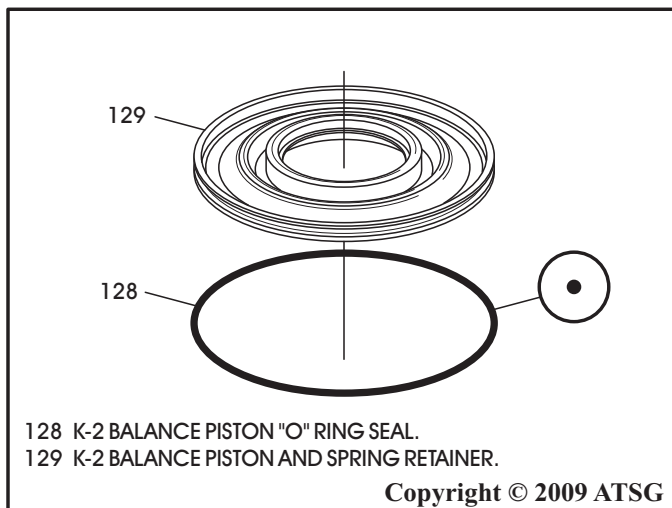

Figure 102
8. Install new "O" ring seal onto the K-2 clutch balance piston, as shown in Figure 102, and lube with small amount of Trans-Jel.